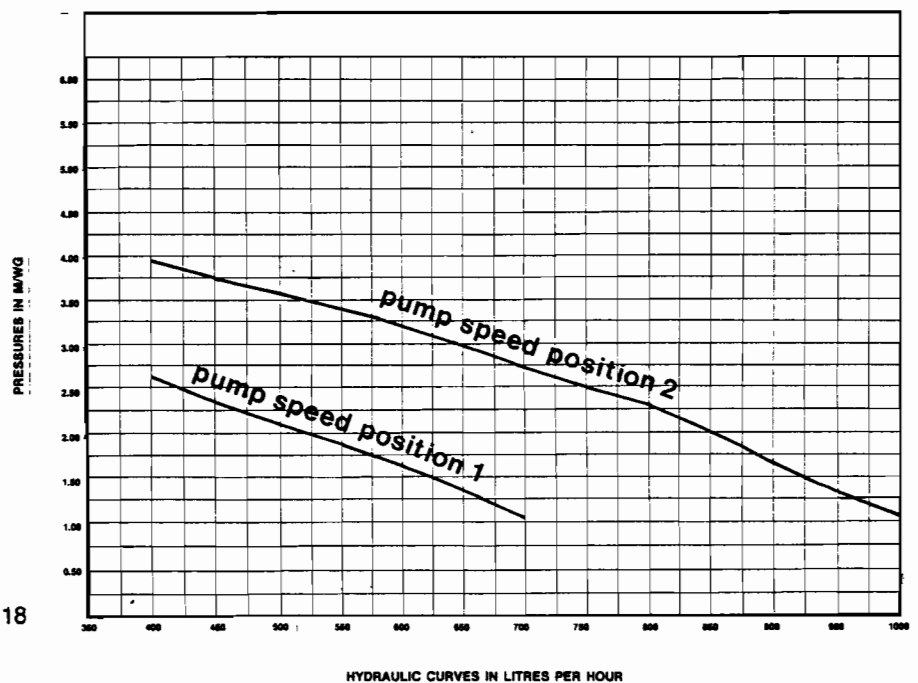

Fig. 18
1. Set the pump rate. The circulating pump has 2 flow settings selected by a rocker switch on the left-hand side. Switch to the desired position to suit the system flow/resistance. (Fig. 18) shows the flow resistance curve for each setting.